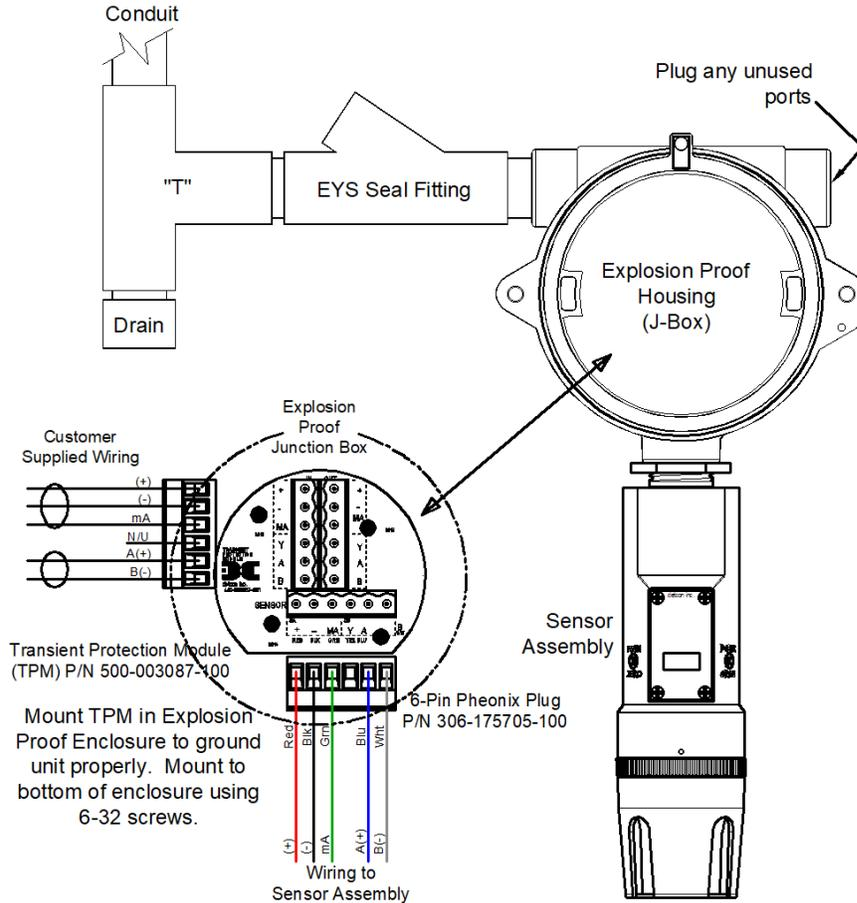
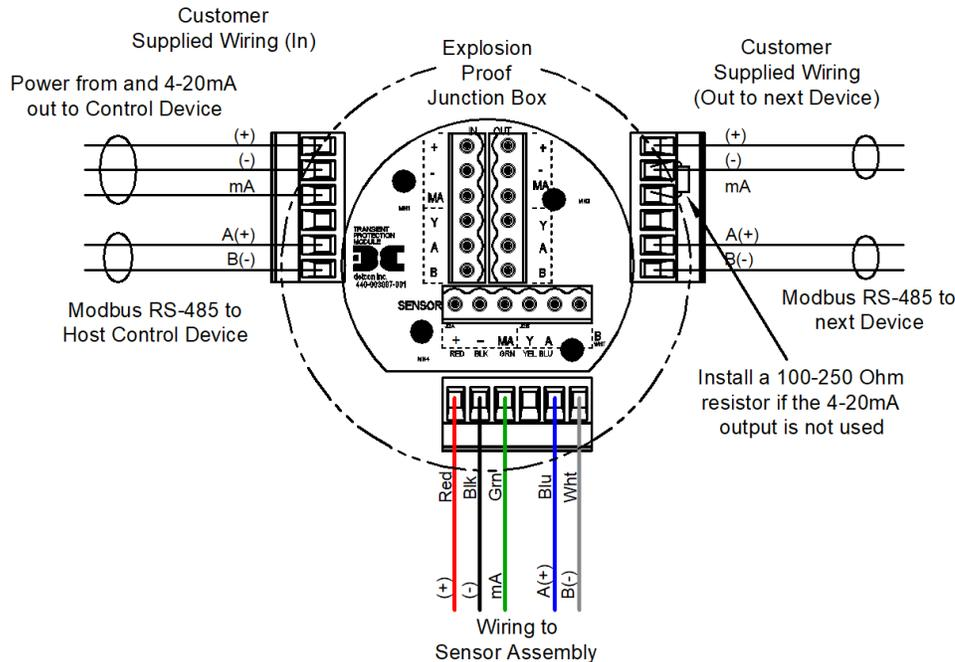

Figure 22 Typical Installation
Figure 23 Sensor Wire Connections
NOTE: In all installations the gas sensor should point straight down (refer to Figure 22). Improper sensor orientation may result in false readings and permanent sensor damage.
Proper electrical installation of the gas sensor is critical for conformance to Electrical Codes and to avoid damage due to water leakage. Refer to Figure 22 and Figure 23 for proper electrical installation.
NOTE: If a conduit run exits the secondary port, repeat the installation technique shown in Figure 22.
In Figure 22, the drain allows H₂O condensation inside the conduit run to safely drain away from the sensor assembly. The electrical seal fitting is required to meet the National Electrical Code per NEC Article 500-3d (or Canadian Electrical Code Handbook Part 1 Section 18-154). Requirements for locations of electrical seals are covered under NEC Article 501-5. Electrical seals also act as a secondary seal to prevent water from entering the wiring terminal enclosure. However, they are not designed to provide an absolute water-tight seal, especially when used in the vertical orientation.
- Observing correct polarity, terminate the 3-conductor 4-20mA field wiring (+, -, mA) to the sensor assembly wiring in accordance with the detail shown in Figure 23. If the 4-20mA output is not used, the green wire from the sensor must be connected to the (-) terminal on the Transient Protection Module.
- If applicable, terminate the RS-485 serial wiring as shown in Figure 23. Use the second plug (Out) as termination point on the customer side to facilitate a continuous RS-485 serial loop